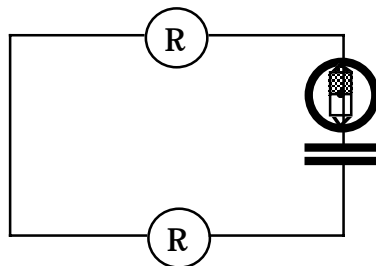

Figure 2.5b
4. Observe the compass and bulbs as you connect the free ends of the wires to each other (Figure 2.5b). This process is called **DISCHARGING A CAPACITOR**. What do you observe?
5. Draw an arrow (or arrows) on Figure 2.5b to show where and in what direction charge moves during discharging.